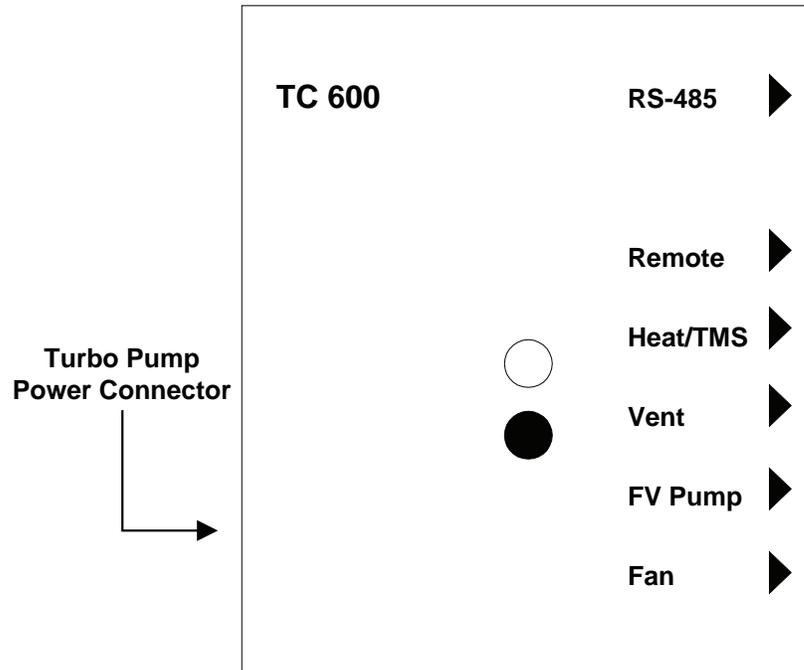

Figure 3-2b.
1. Attach one end of the turbo pump power cable to the connector labeled “Turbo Power” in Figure 3-2b. Attach the other end to the power connector on the side of the pump controller. This supplies power to the turbo pump.
2. Attach the RS-485 turbo cable from the connector labeled “Turbo RS485” in Figure 3-2b to the connector labeled “RS-485” on the turbo pump controller.
The backing pump was mounted on the ProLine at the factory. There is only one connection that must be made to the backing pump. Connect the power cable from the backing pump to the outlet labeled “Backing Pump” in Figure 3-2b.